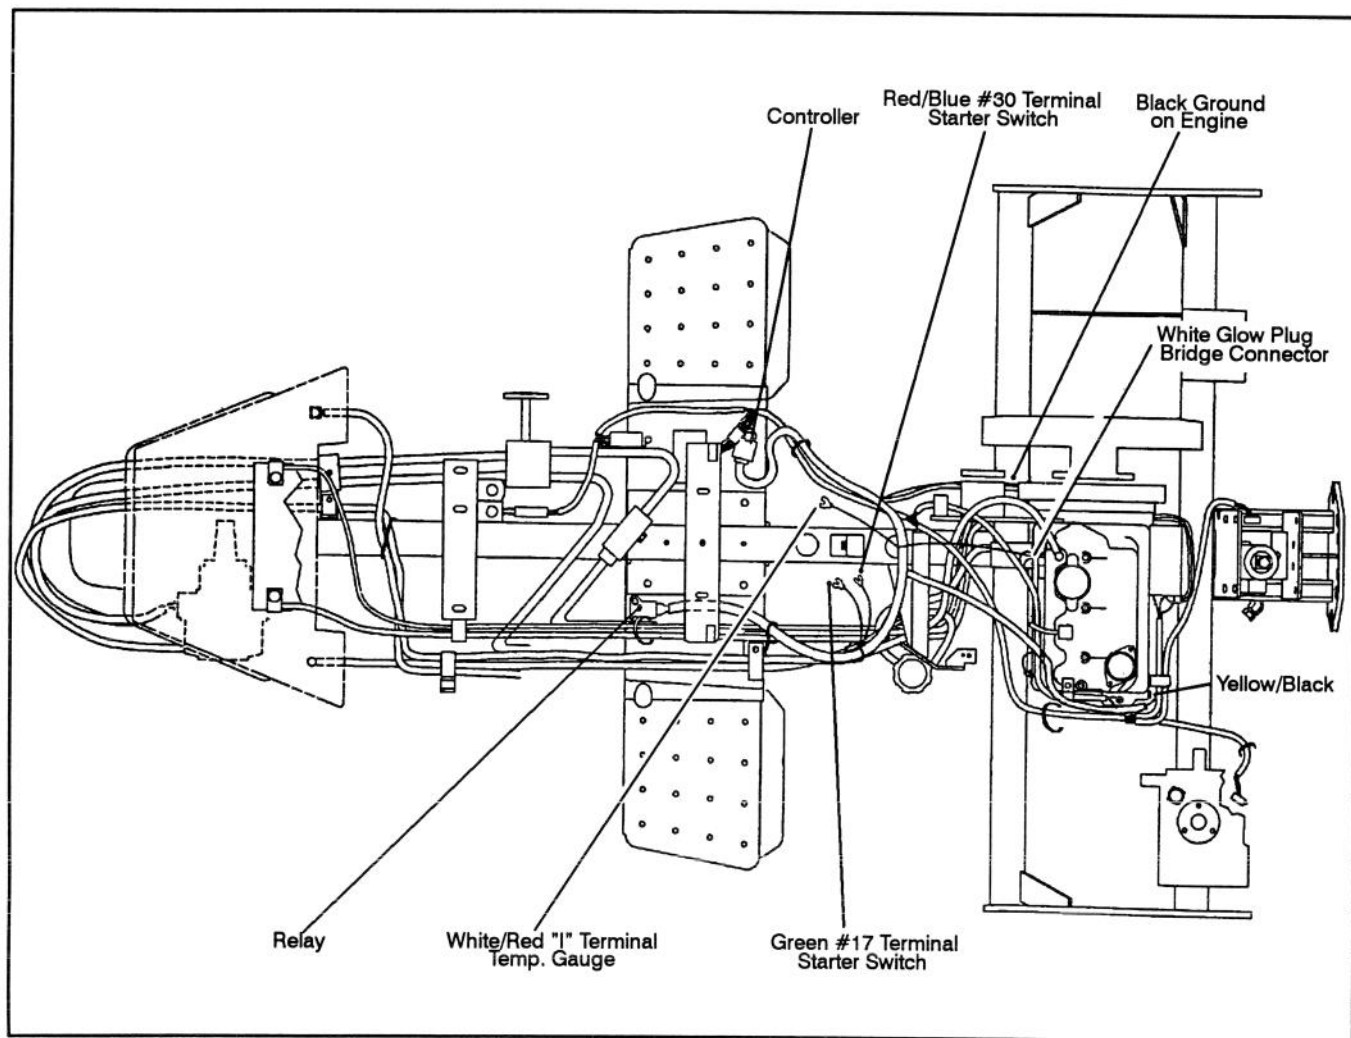

Figure 2
24. Mount relay to footrest with (2) 1/4-20 x 3/4" lg. capscrews and locknuts (Fig. 2).
25. Using existing hole in left footrest, mount controller to footrest with a 1/4-20 x 3/4" lg. capscrew and locknut (Fig. 2).